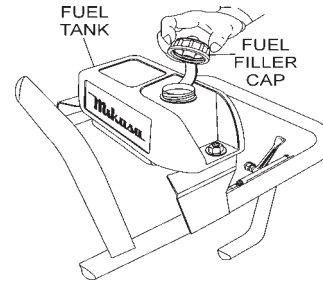

Figure 2. Fuel Tank
1. Fill the fuel tank (Figure 2) with unleaded gasoline. **DO NOT** overfill, wipe up spilled fuel immediately.